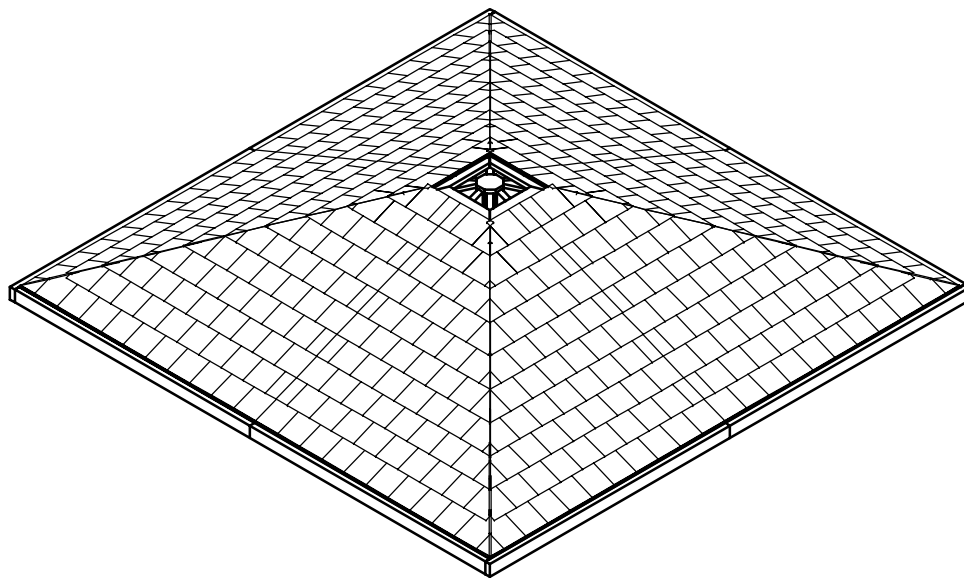

FIGURE S30
- See Figure S30 for completed diagram of shingled roof.